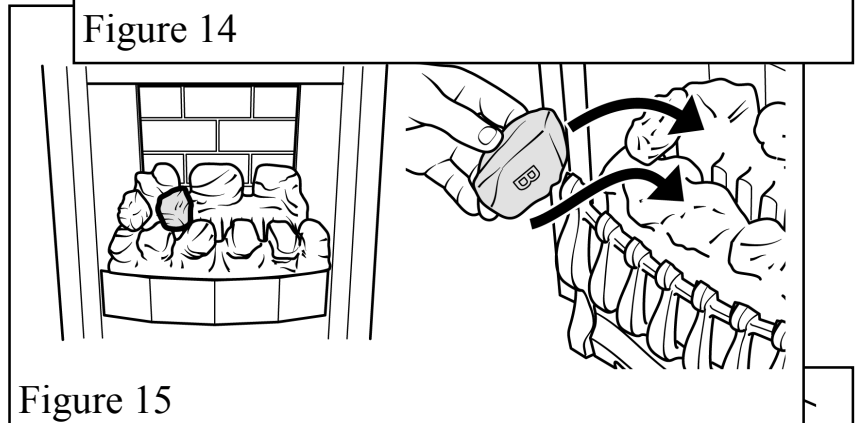

Figure 15
7. Place a type "B" coal between the front and rear base coals as shown in figure 15. The letter "B" should be upright.